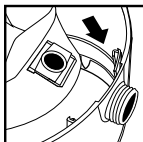

FIGURE 24
34. Slide the inlet deflector with the filter bag attached to the deflector guide. **FIGURE 24**